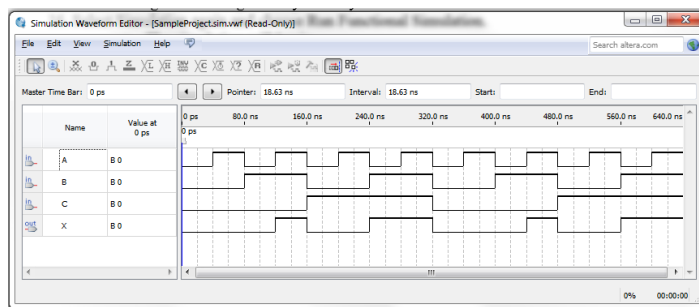

Figure 4.5.10: Simulation result
- When completed, a report window will appear (Figure 4.5.10).